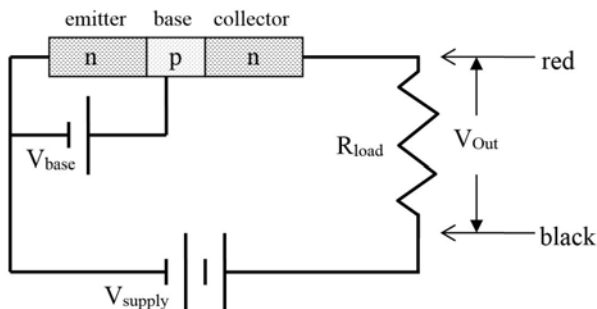
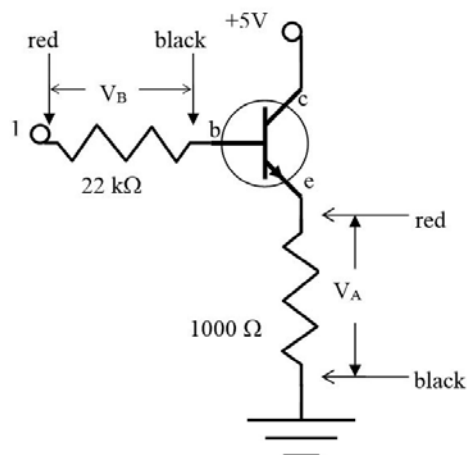

Figure 1: Transistor Theory
Figure 2: Gain Measurement Circuit
A transistor is really two diodes arranged back to back as in Figure 1 where there is an np junction between the emitter and the base and a pn junction between the base and the collector. This is called an npn transistor. One can also have a pnp configuration. Note that in Figure 2, the schematic representation of the npn transistor shows the diode character of the np junction between the emitter and base explicitly as an arrow showing allowed current flow, but does not show the arrow for the base to collector. The base to collector arrow would also point away from the base. This is done as an easy way to identify the emitter on a schematic diagram without having to show the c, b, & e on the diagram. V_{supply} is always large enough so that the base/collector junction is forward biased, so current flows readily across this junction. Not shown in Figure 1, there is always a large resistance in series with the transistor base (as in Figure 2) to prevent much current through the base. However, any current through the emitter/base junction will flow freely through the base/collector junction. When V_{base} becomes positive by more than the bias voltage (the “turn-on” voltage from the Diode Properties lab), current flows through the emitter/base junction and thus through the base/collector junction.
2. Setup the circuit shown in Figures 2 & 5 using a 1000 Ω (brown-black-red- gold) resistor between the spring clips at far left in series with the transistor emitter (E). A 22 k Ω (red-red-orange-gold) resistor is in the middle left in series with the transistor base.
3. The red output of Output 1 on the 850 Universal Interface is connected to the lower jack on the Electronics Laboratory (point 1 in Figure 2) which is connected to the end of the 22 k Ω resistor away from the transistor base. The black output from Output 1 is connected to the end of the 1000 Ω resistor away from the transistor emitter.